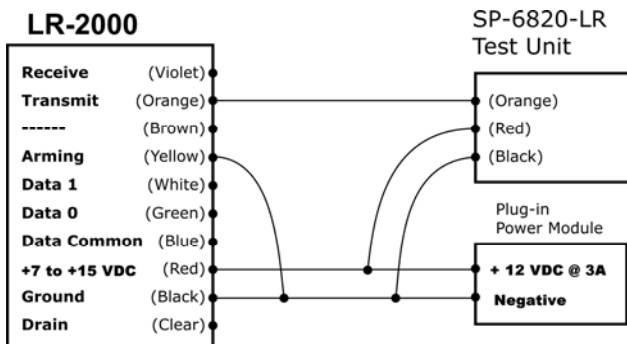

Figure 1. Connections for Pre-Installation Testing
3. Connections: Connect three negatives (black wires) on reader, test unit, and power supply, plus reader’s yellow wire, together. Connect reader’s orange wire to test unit’s orange wire. Connect three positive power lines (red wires) on reader, test unit, and power supply together. See Figure 1 for connections.